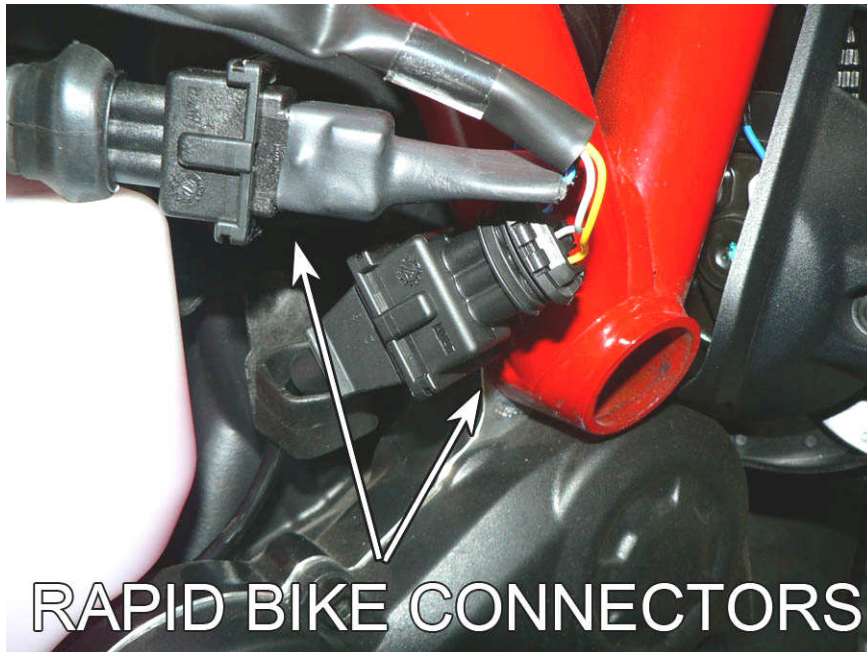

Fig. 7
8. Connect the Rapid Bike connectors in-line of the stock connectors (**Fig.7**).